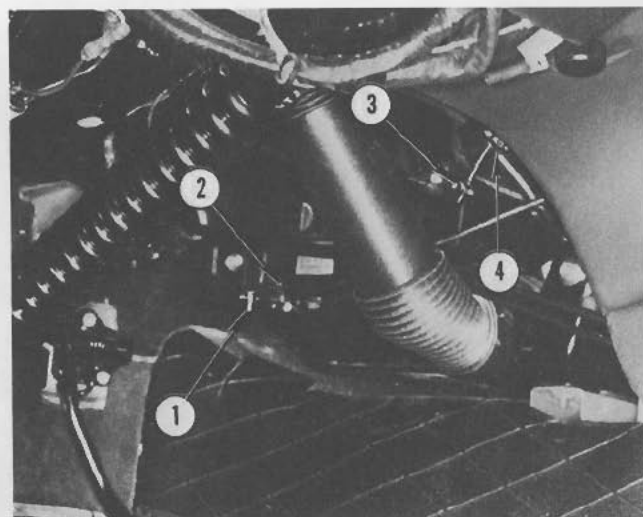

Figure III-6. Heater Control Cable Disconnect (LH)
- a. Disconnect the air vent control cable at the terminal, Item 1, on the lower LH side of the heater box (see Figure III-6). Release the cable clamp, Item 2, and free the cable of connections.
b. Disconnect the defroster control cable at the terminal, Item 3, on the upper LH heater/defrost box (see Figure III-6). Release the cable clamp, Item 4, and free the cable of connections.